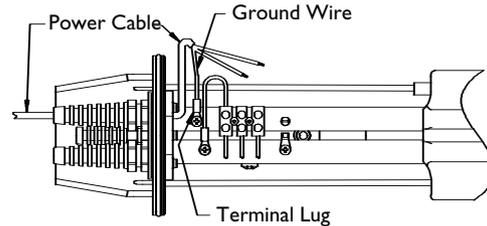

FIGURE 9 Securing the Ground Wire
3. A screw/terminal lug is provided for securing a safety ground. To attach the safety grounding wire of the power cord (green 115volt, green/yellow 230volt), first unscrew the terminal lug and strip and crimp the grounding wire into the lug. Next, reattach the terminal lug to the rail assembly using the M4 x 10 screw and lock washer provided. See FIGURE 9.